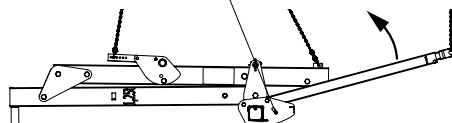

Fig. 3
4. Lift safety bolt (4.1) and fold back fork arms. (Fig. 3)
5. Lifting chain (7) is wrapped around as required.